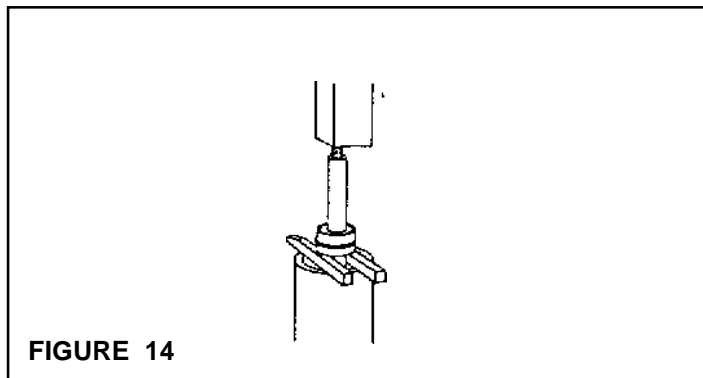

FIGURE 14
4. Place the Shaft (threaded end up) in a pipe support fixture; then, place the two Support Bars included in the repair kit opposite each other and between the Seal on the Shaft and the support fixture (See Figure 14).
5. Thread the Impeller Nut on the end of the Shaft; then, using an Arbor Press; press the Shaft through the Bearing, Seal Spacer, and Seal (See Figure 14).